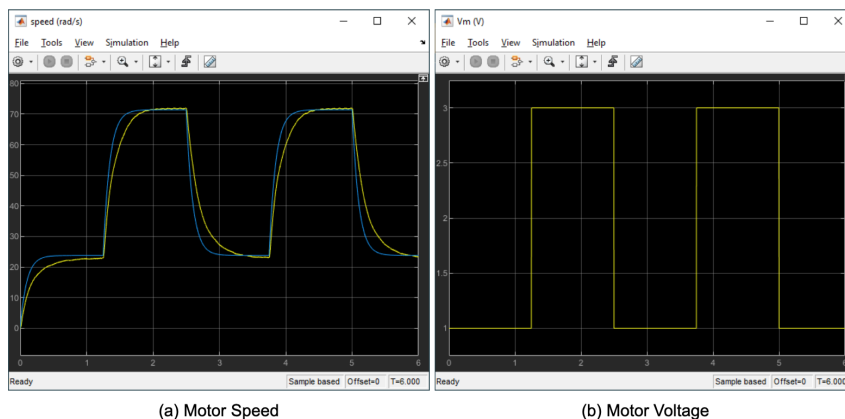

Figure 6: Example response when running block diagram model and with Qube-Servo 3 hardware in parallel.
- Build and run the QUARC[®] controller with your Qube-Servo 3 model in the edited file `q_qube3_model_student.slx`. Make sure to run the MATLAB[®] file `qube3_param.m` to load all the necessary variables in the workspace before running the experiment. The scope response should be similar to Fig. 6. Does your model represent the Qube-Servo 3 reasonably well? Include plots in your report showing: 1- Input voltage; 2- Simulated and actual velocity output; 3- Simulated and actual position output. The SIMULINK[®] file `q_qube3_model_student.slx` should also be modified so that SIMULINK[®] saves the signals in either the workspace or in “mat” files. Use the provided file `MEM05_Qube_DCMotor_OLResponse.slx` as an example. This will enable you to produce the necessary plots by a modified version of the provided file `MEM05_Qube_DCMotor_Plots.m`.